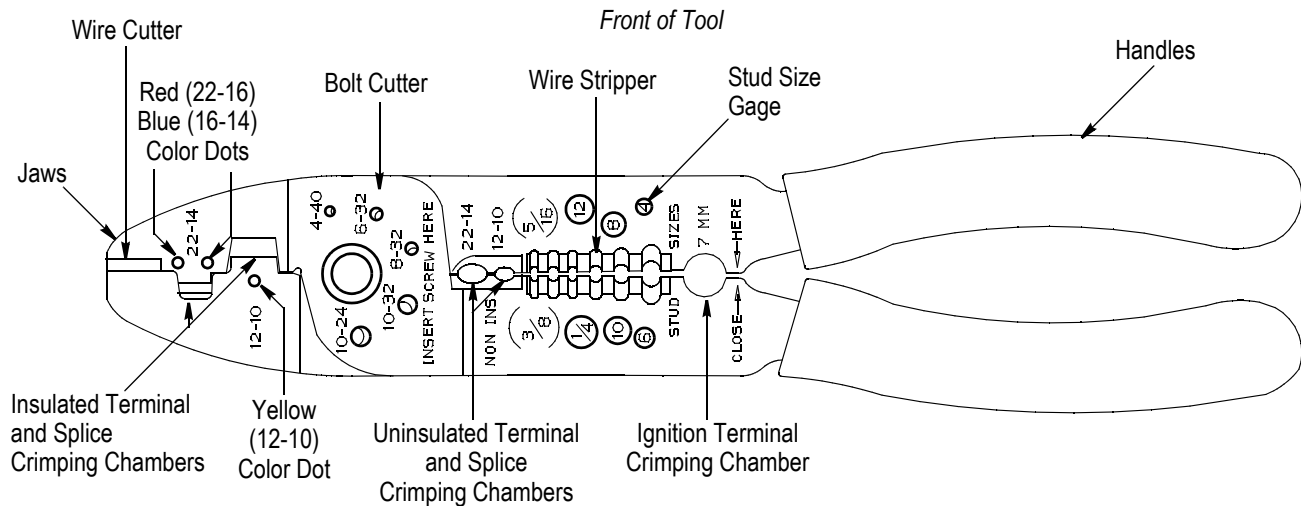

Figure 1
The hand tool consists of two jaws and handles. The jaws feature crimping chambers, a wire cutter, bolt cutter, stud size gage, wire stripper, and strip length gage. The crimping chambers are marked with the wire size range; and in addition, the crimping chambers for insulated terminals and splices are color-coded. The crimping chamber for ignition terminals is marked "7 MM". See Figure 1.
1. Insert the terminal in the crimping chamber marked "7 MM". See Figure 1. Center the wire barrel in the crimping chamber.
2. Thread the bolt into the appropriate-sized opening on the side of the tool marked, "INSERT SCREW HERE". See Figure 1.
- Modified Figure 1, and Paragraphs 3.3, 3.4, and 3.5